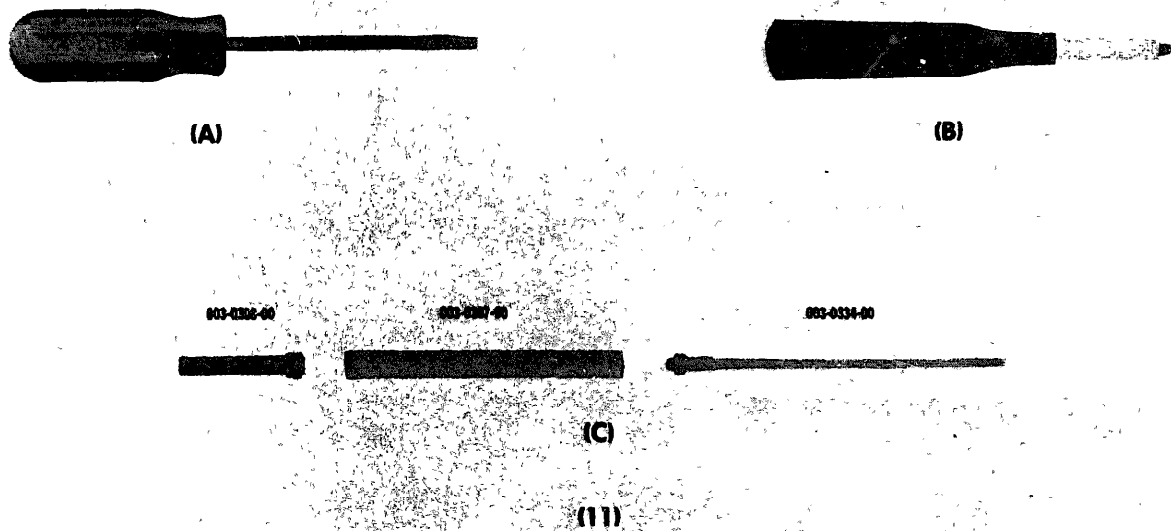

Fig 7-2. Adjusting tools required for calibrating the Type 1A2.
11. Adjustment tools (See Fig 7-2)